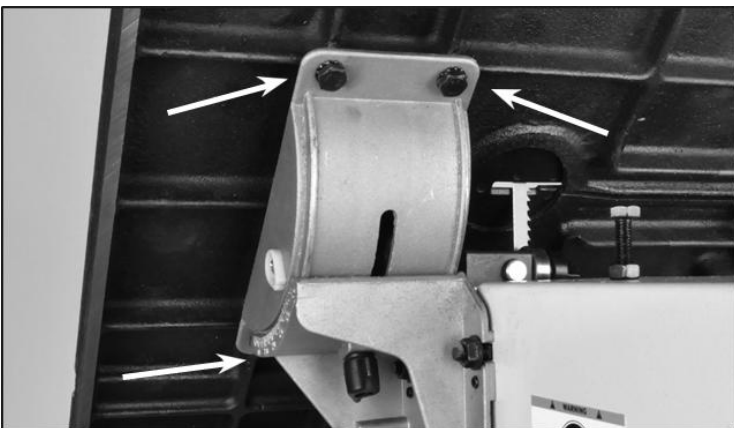

Fig. 22
4. Secure with four bolts and four teeth washers.(Fig. 22)